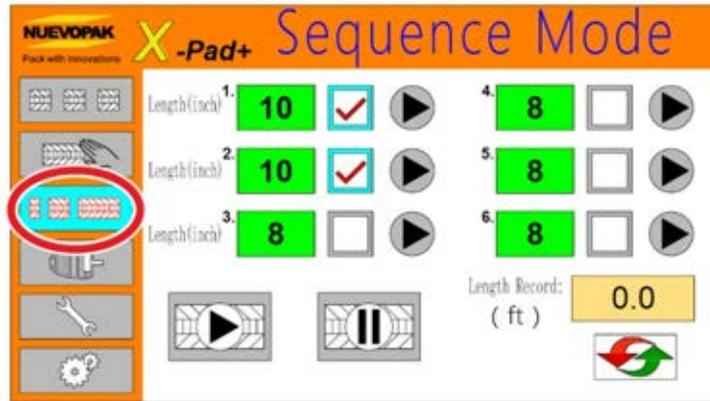

Figure 39 Sequence Mode
Sequence Mode dispenses up to six (6) preset lengths, individually or in a sequence (refer to Figure 39).